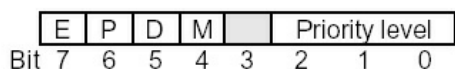

Figure 18.0 The Service Option Octet
**Service Options:** Service requests and service grants allow for special service extensions called the Service Options field. These features provide extended flexibility to tailor the requested service to the needs of the requesting unit or process capability of the system. Figure 18.0 shows the Service Option field definition.